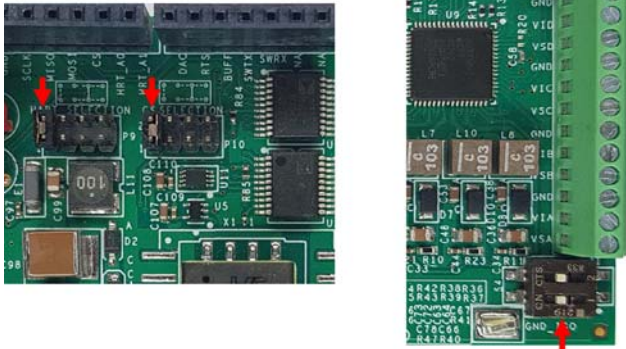

Figure 17. Default Shunt Jumper Position of P9 and P10; Dual Inline Package (DIP) Switch in the On Position
2. If the jumpers are not already mounted, mount the jumpers provided in the box in the same configuration as shown in Figure 17.